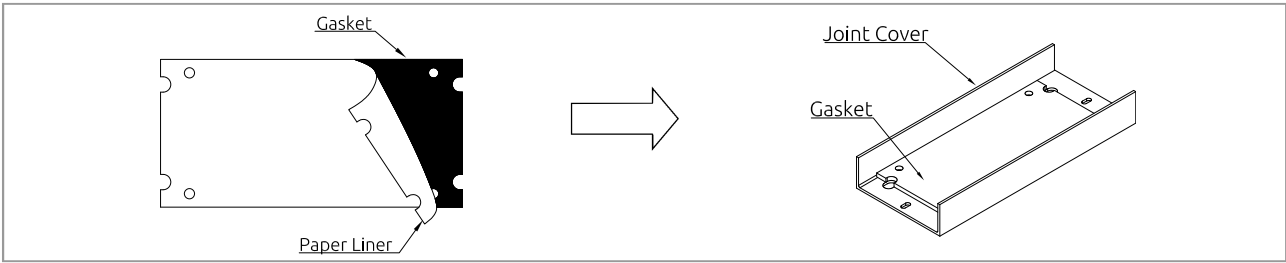

Figure 7.4
6. Paste the gasket to joint cover as shown in Figure 7.4.